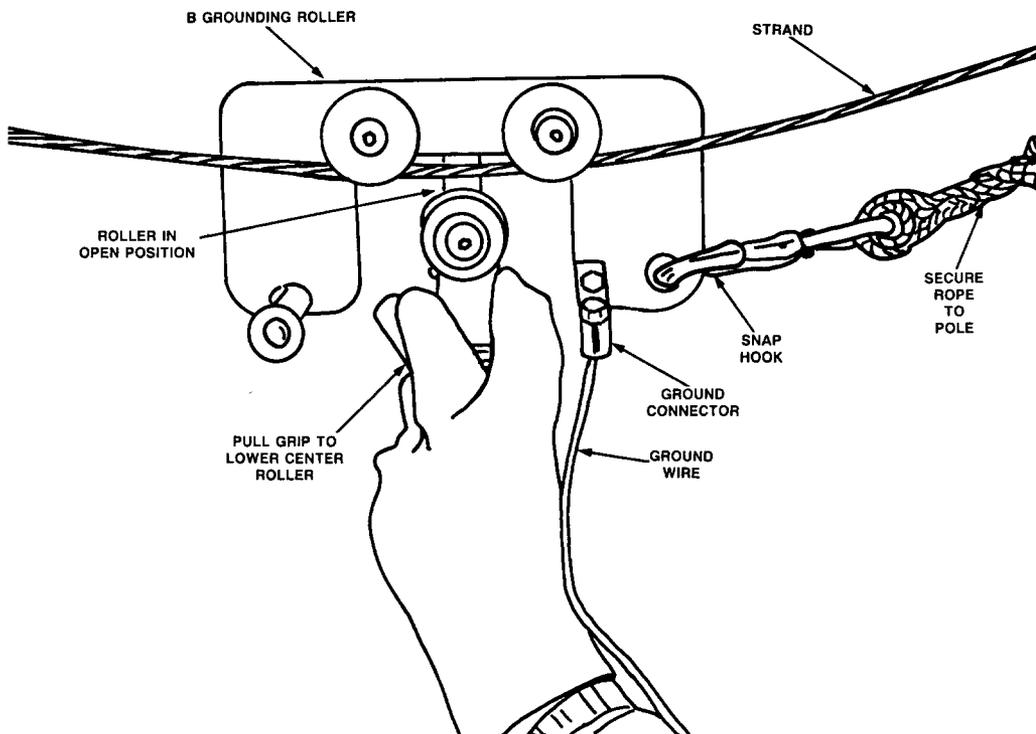

Figure 3 - Installing B Grounding Roller
- (b) Tie the rope to the pole and attach the snap hook to one of the frame holes of the roller as shown in Figures 3 and 4.
- (b) Attach one end of the number 6 ground wire to the connector (see Figure 3) of the grounding roller.
- Compress the tensioning spring, forcing the steel shaft and center roller to the open position as shown in Figure 3.